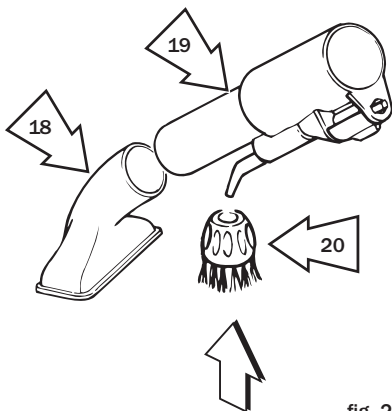

fig. 20
- If the surface to be cleaned is very dirty, fit a small brush in the spout of the steam nozzle (fig. 20).
- Put the small brush 20 in the spout of the steam nozzle (fig. 20) and crevice nozzle 18 in the adaptor (19).